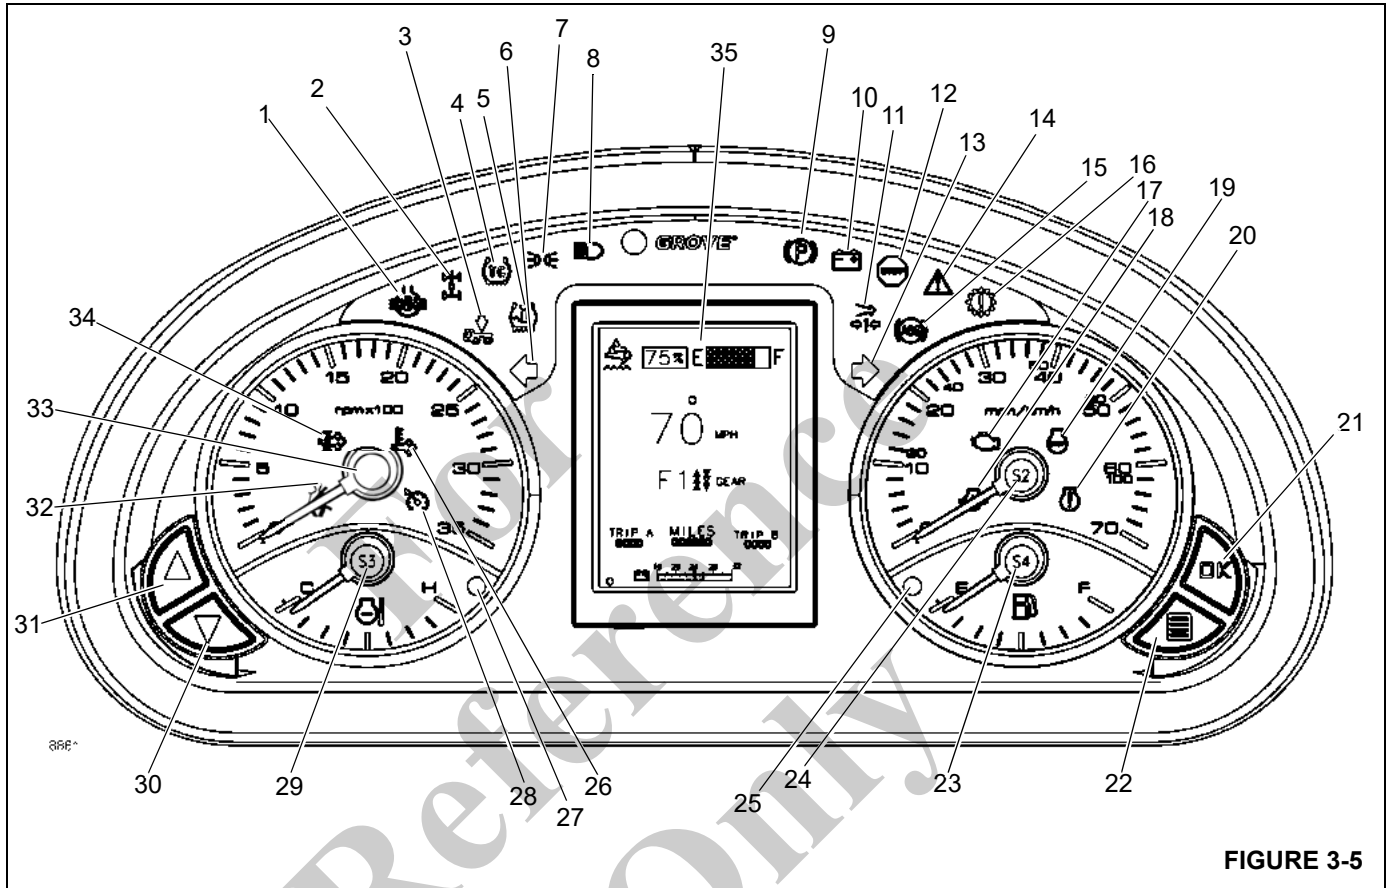

FIGURE 3-5
can be accessed by selecting the menu button located on the Control Panel and Gauge Display. See Item (22), (Figure 3-5) for the location of the Menu Button.
The Control Panel Indicator and Gauge Display (24), (Figure 3-4) and detailed in (Figure 3-5) is located in the center of the front console. It includes indicator lamps and gauges that provide information on the engine, transmission, brakes, and other systems.
The Cross-Axle Locked Indicator (1), (Figure 3-5) (aka Differential Locked Indicator) is located at the left side of the gauge cluster. The indicator illuminates Amber to show that the differential is locked.
The Inter-Axle Locked Indicator (2), (Figure 3-5) is located at the left side of the gauge cluster. The indicator illuminates Amber to show that the inter-axle is locked.
The Suspension Deflated Indicator (3), (Figure 3-5) is located on the left side of the gauge cluster. The Amber indicator illuminates when the air is removed from the suspension air bags.
The Traction Control Indicator Lamp (4), (Figure 3-5) is the primary indicator of the traction control status.
The Tire Inflation ON Indicator (5), (Figure 3-5) is located on the left side of the gauge cluster. The indicator illuminates Amber when the pressure switch in the tire inflation system is activated. In addition to illuminating the indicator, a warning buzzer will sound.
The Left Turn Signal Indicator (6), (Figure 3-5) is located on the left side of the gauge cluster. It is a Green indicator light that flashes when the turn signal lever or hazard switch is activated.
The Lights ON Indicator (7), (Figure 3-5) is located on the left side of the gauge cluster. It illuminates Green when the headlights or marker lights are on.
The Headlight High Beam Indicator (8), (Figure 3-5) is located at the top left center of the gauge cluster. The indicator illuminates Blue when the headlights are on high beam.
The Parking Brake Engaged Indicator (9), (Figure 3-5) is located at the top right of the gauge cluster. The indicator illuminates Red when the crane parking brakes are applied.
The Battery Charge Indicator (10), (Figure 3-5) will illuminate Red when any of the following conditions are met, key switch is OFF but the headlights or turn signals are left on, the key switch is turned to the IGNITION position, the engine is running and the alternator charge signal is missing, or the system battery voltage or engine ECM voltage falls below 18V or goes above 30V. If both the carrier and superstructure key switches are OFF this light will not be on.
The Low Air Pressure Indicator (11), (Figure 3-5) is located on the right side of the gauge cluster. It illuminates Red when the pressure in the dual accumulator charge valve falls below normal operating requirements. A warning buzzer will also sound.
The Emergency Stop Indicator (12), (Figure 3-5) is located on the right side of the gauge cluster. It illuminates Red when the Emergency Stop Switch is pushed in (refer to Emergency Stop Switch, page 3-16) and a warning buzzer will sound.
The Right Turn Signal Indicator (13), (Figure 3-5) is located on the right side of the gauge cluster. It is a Green indicator light that flashes when the turn signal lever or hazard switch is activated.
The System Fault Indicator (14), (Figure 3-5) is located on the right side of the gauge cluster. It illuminates amber when any crane system fault is active.
The Anti-Lock Braking System (ABS) Indicator Lamp (15), (Figure 3-5) is the primary indicator of the ABS status.
The Check Transmission Indicator (16), (Figure 3-5) is located on the right side of the gauge cluster. It illuminates Red when commanded by the TCU (transmission control unit) via SAE J1939 serial communications. A warning buzzer will also sound.
The Malfunction Indicator Lamp (MIL) (17), (Figure 3-5) illuminates Amber when there is an emission related system error. When this indicator illuminates have the crane serviced as soon as possible.
The Low Oil Pressure Indicator (18), (Figure 3-5) is located in the speedometer. It illuminates Red as commanded by the engine ECM via SAE J1939 serial communications.
The Engine Stop Indicator (19), (Figure 3-5) is located in the speedometer. The indicator illuminates Red when energized by a signal from the engine ECM that signifies a serious engine problem that requires the vehicle and the engine to be stopped as soon as safely possible. In addition, a warning buzzer will also sound.
The Engine Warning Indicator (20), (Figure 3-5) is located in the speedometer. It illuminates Amber when energized by a signal from the engine ECM that signals the operator of an engine problem which must be corrected.
The OK Button (21), (Figure 3-5) is used to accept the current display screen on the LCD display.
The Menu Button (22), (Figure 3-5) is used to scroll through the LCD display screens.
The Fuel Level Gauge Indicator (23), (Figure 3-5) is located on the right side of the gauge cluster. The gauge indicates the quantity of fuel in the fuel tank and has a scale calibrated from E (Empty 0%) to F (Full 100%). The fuel gauge receives a signal from the engine ECM via SAE J1939 serial communications.